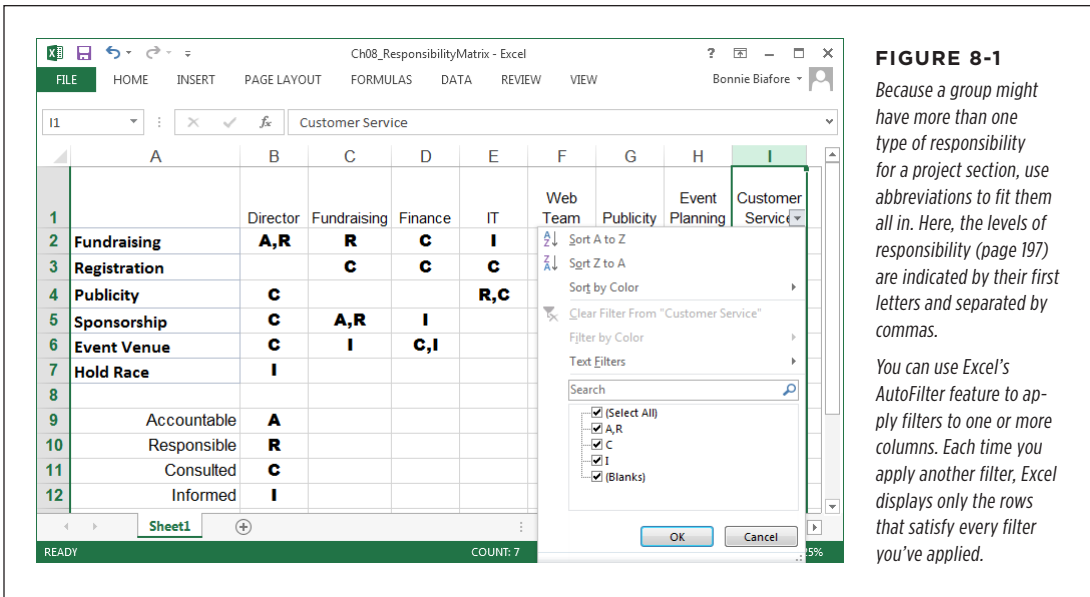

FIGURE 8-1
Project doesn't have a built-in responsibility matrix, but Microsoft Excel makes an ideal tool for creating one, since an Excel worksheet is nothing more than a matrix of cells. As stated above, a responsibility matrix links groups to major sections of a project. Because project sections usually outnumber the groups involved, the groups usually go in the columns and the project sections in the rows, as shown in Figure 8-1.
- 1. With the responsibility matrix file open in Excel, click the column heading for the group in question, such as the label “C” above Fundraising in Figure 8-1.**
- 3. To display the drop-down menu of filters you can apply, shown in Figure 8-1, click the arrow in the heading cell for the group you want to look at first.**